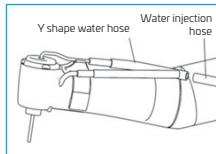

Fig. 3
- Connect water injection hose to Y shape hose. (Figure 3)